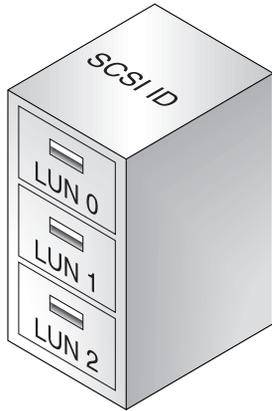

FIGURE 8-1 Filing Cabinet Represents the SCSI or FC ID
FIGURE 8-1 illustrates the idea of mapping a system drive to a host ID/LUN combination. The FC or SCSI ID is like a cabinet, and the drawers are the LUNs. Each cabinet (ID) can have up to 32 drawers (LUNs). Data can be stored into one of the LUNs of the FC or SCSI ID. Most FC host adapters treat a LUN like another FC or SCSI device.